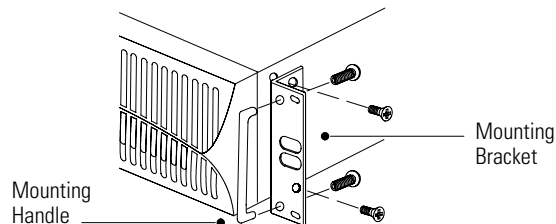

Figure 5. Installing the Mounting Handles and Brackets
2. Attach the supplied mounting handles to the mounting brackets and secure with the supplied screws (see Figure 5).
3. Align the mounting brackets with the screw holes on the sides of the UPS and secure with the supplied screws (see Figure 5).